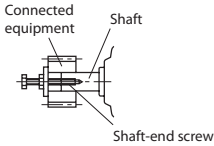

Figure 5-1
- Shrinkage or shaft-end screw fit (see Figure 5-1) is recommended.